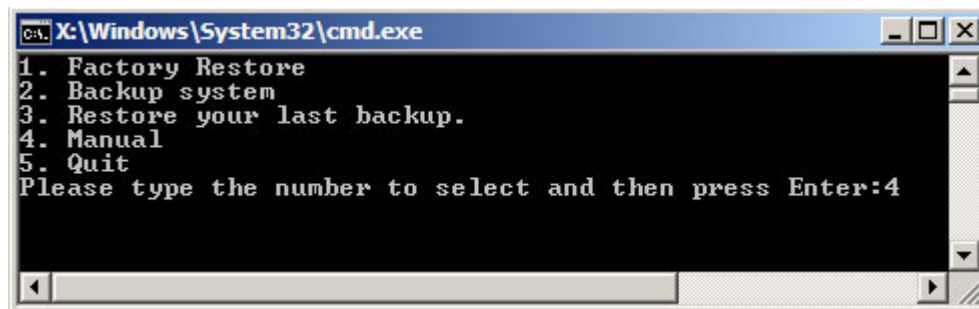

Figure C-11: Recovery Tool Menu
Step 2: The recovery tool menu appears. Type <4> and press <Enter>. (**Figure C-11**)